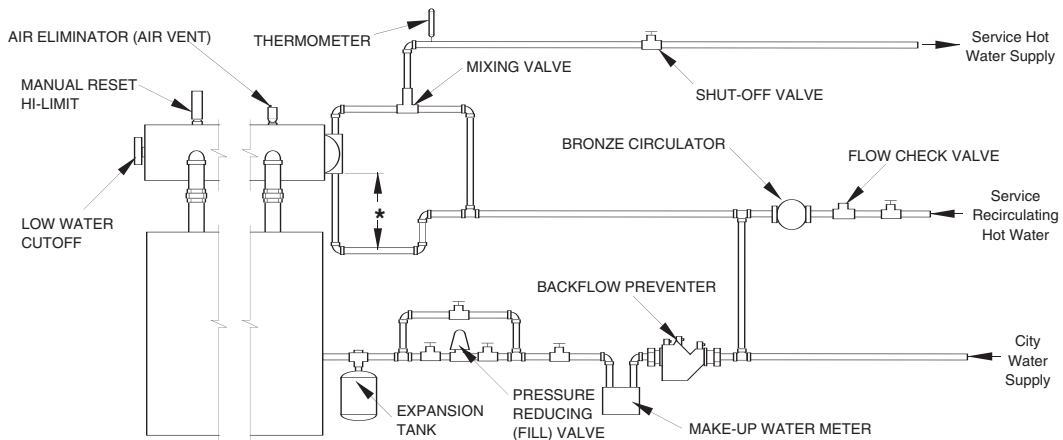

FIGURE 3.6
(1) For heating plants providing volume water heating only (instantaneous recovery or with storage tank), see Figures 3.6 and 3.7 on page 10 for installation guidelines.
⁽¹⁾ For heating plants providing volume water heating only (instantaneous recovery or with storage tank), see Figures 3.6 and 3.7 on page 10 for installation guidelines.